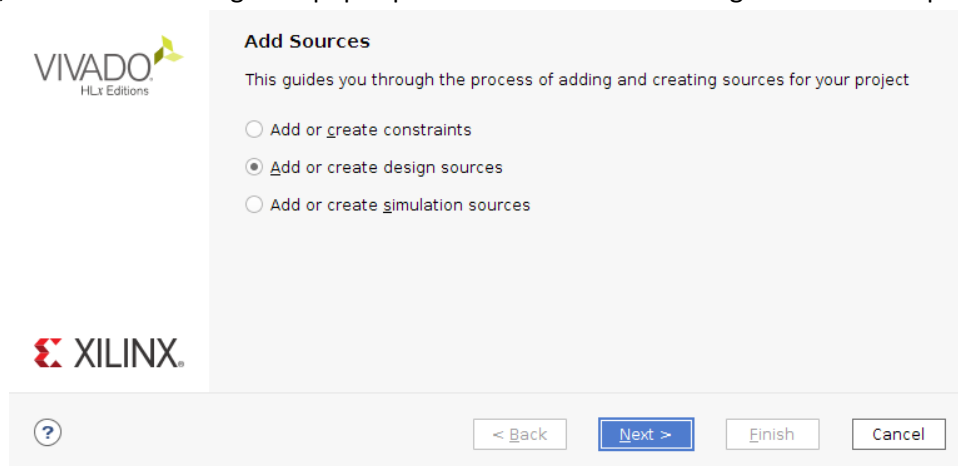

Figure 7 Add sources window
2. Next, the wizard from Figure 7 pops up. Select “Add or create design sources” and press Next.